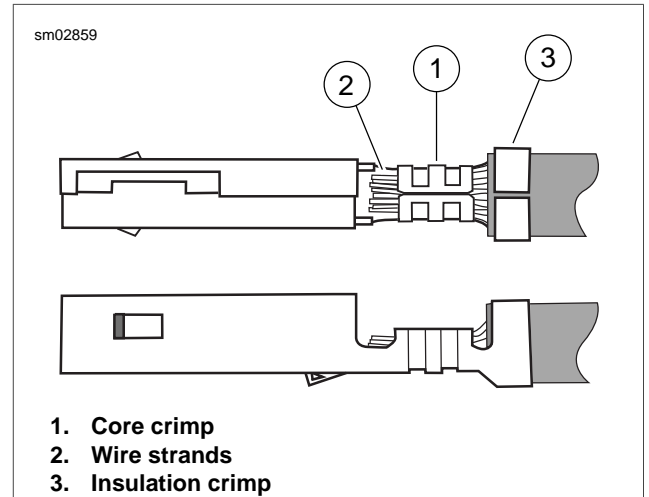

Figure A-38. Terminal Crimp
- a. See Figure A-38. The core tails should be created into the wire strands at the core crimp (1).
- b. Strands (2) of wire should be visible beyond the core crimp but not forward into the terminal shell.
- c. The insulation tails should be folded into the insulation (3) without piercing or cutting the insulation.